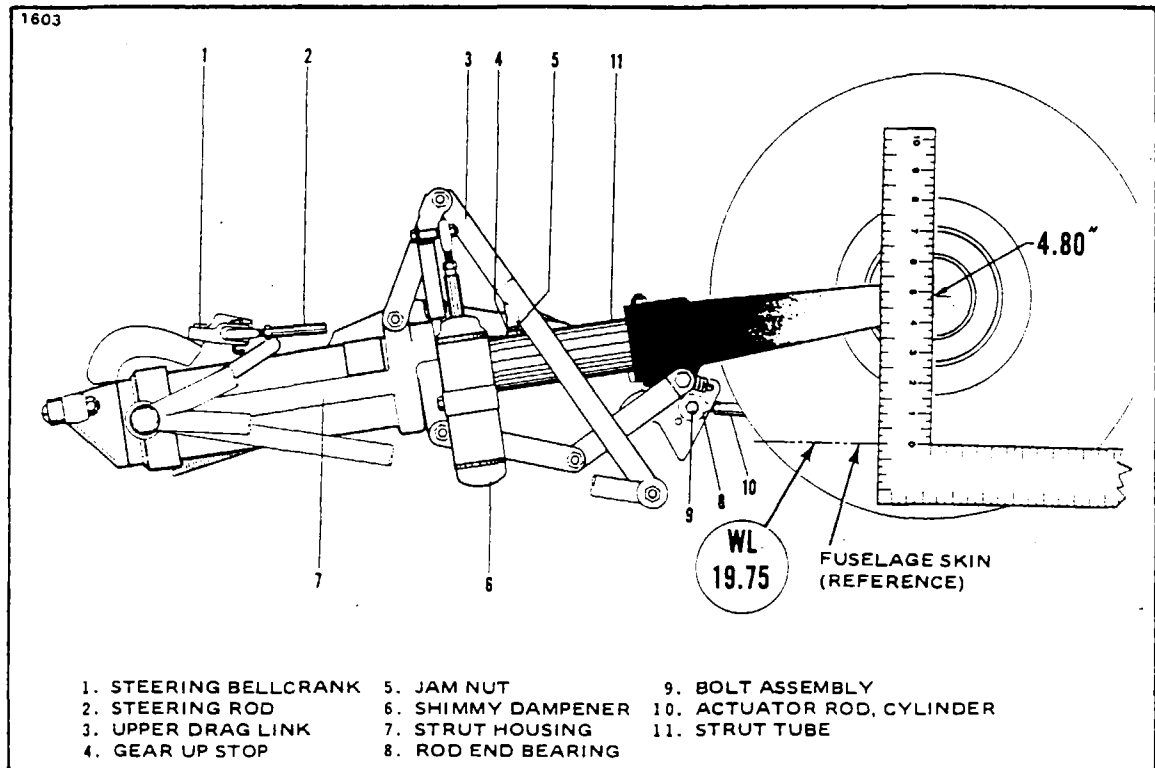

Figure 6A-3. Nose Gear Adjustment
6A-12. ADJUSTMENT OF NOSE LANDING GEAR. (Refer to Figure 6A-3.) The gear up stop (4) is located on underside of upper drag link (3).
- d. Check the adjustment of the gear up stop by placing a carpenters square with the longest end along the bottom of the fuselage, and the shortest end running up through the centerline of the wheel axle. Measure up along the square from the bottom of the fuselage 4.80 inches, to determine if the center of the wheel axle meets this measurement. If this measurement is incorrect, extend the gear, loosen the jam nut (5) on the gear up stop, and make the required adjustment by turning the stop.
- f. Recheck all adjustments and retighten the jam nut on the gear up stop. When the gear is fully retracted, the strut tube (11) should be firmly against the gear up stop. Extend the gear.